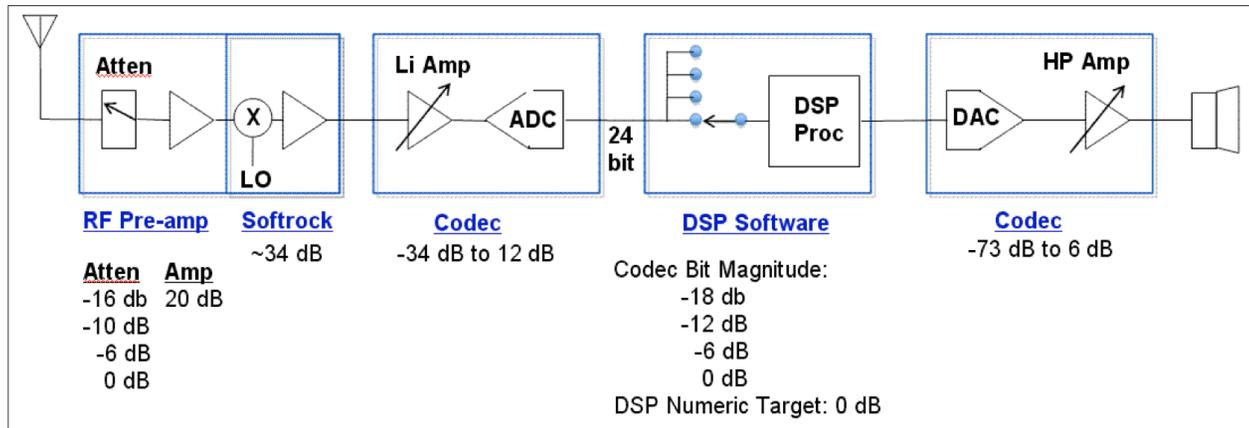

Figure 4: System Gain Distribution
**System Gain Distribution ...** And speaking of gain, we have plenty of adjustment opportunities throughout the system, from antenna to speaker. Each of the blocks shown in Figure 4 offers an opportunity to change the gain, and the goal would be to set each signal to the greatest level able to be processed by that stage without overflowing the digital registers, yielding the most dynamic